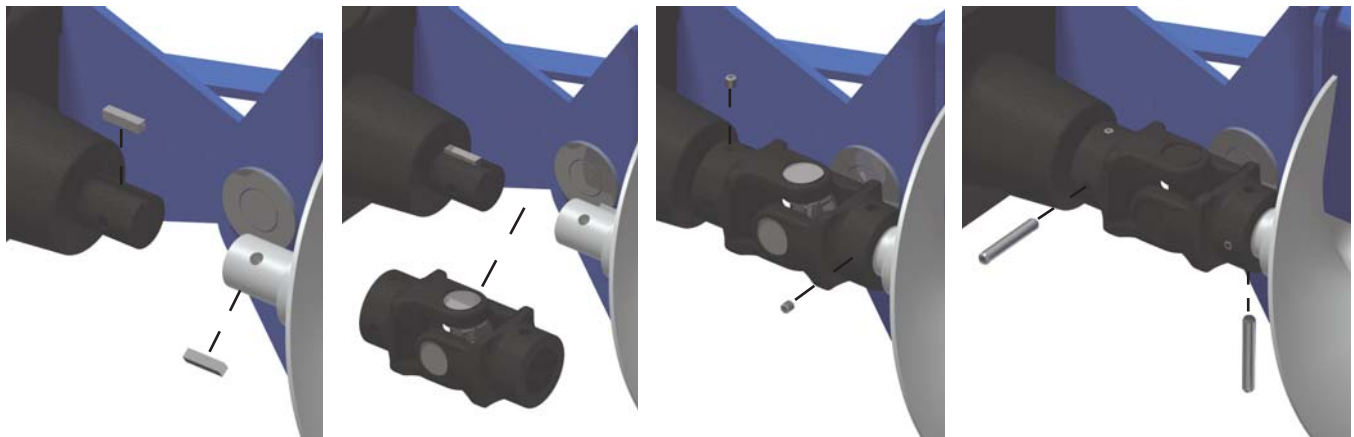

Figure 32
Locate two (2) 1/4" x 1" Keys. Place one key into the key-slot on the Gearbox Shaft and place the other key into the key-slot on the Flying Shaft. (see **Figure 32**, far left)
Place the U-Joint onto the Gearbox and Sweep Shafts, ensuring that the keys stay, roughly, centered to the Set Screw holes. (see **Figure 32**, middle left)
Using two (2) 3/8" setscrews (*these should come with the U-Joint*), thread and tighten them into the U-Joint to secure the keys into place. (see **Figure 32**, middle right)
Finally, insert two (2) 5/16" x 2" Spring Pins into the remaining holes on the U-Joint to secure it into place. (see **Figure 32**, far right)